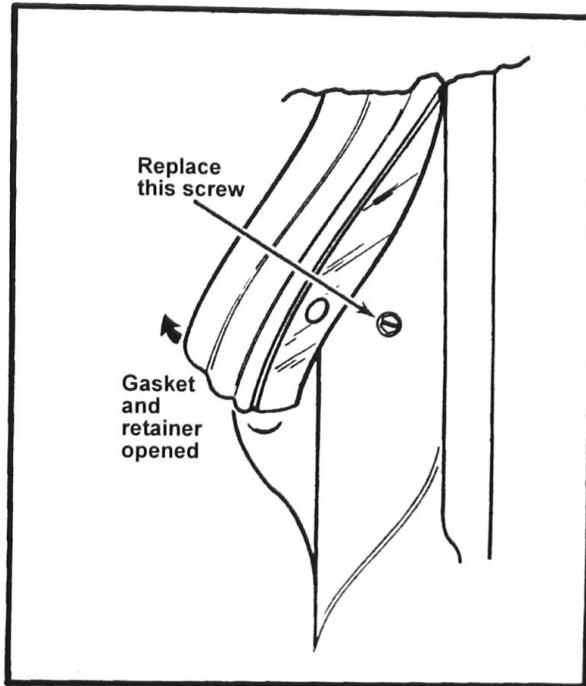

Figure 2
2. Bend the gasket and retainer away from the support frame and replace the screw. See Figure 2.